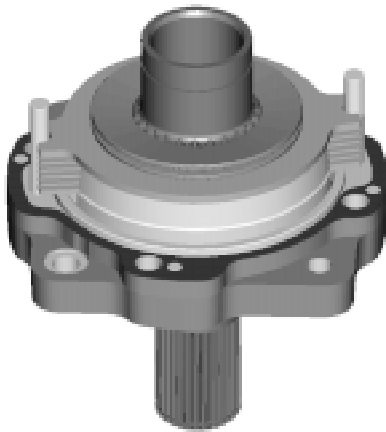

Figure 6.
14 Install springs (8), center-to-center, on to the shaft-output (1). **Note:** From the side view the springs form a "V", see figure 6.